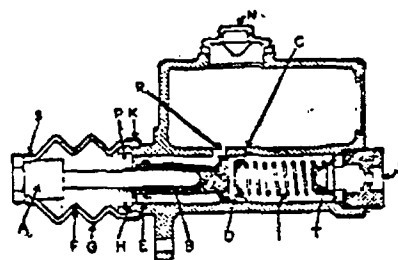
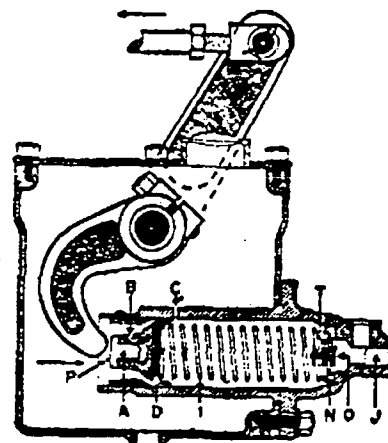

Fig. 1
Fig. 2
- N—(Fig. 1) Vent Cap
- O—(Fig. 2) Inlet Valve
- P—(Fig. 1) Spring Washer
- Q—(Fig. 2) Spring Stop
THE master cylinder shown in Fig. 1 is the integral tank master cylinder (compensating type) in common use on late model cars. The Barrel Type cylinder (not shown) is on the same principle, except that a dash type gravity supply tank is used. The Box Type master cylinder (Fig. 2) is the same as the barrel type except that the master cylinder itself is submerged in a reservoir of hydraulic fluid instead of having a dash supply tank.